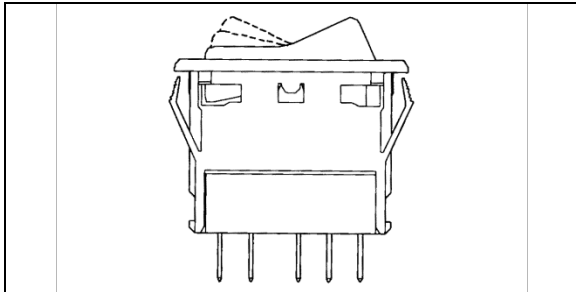

FIGURE 49: DASHBOARD ROCKER SWITCH 06321
3. To install a new switch, reverse the procedure (Figure 49).